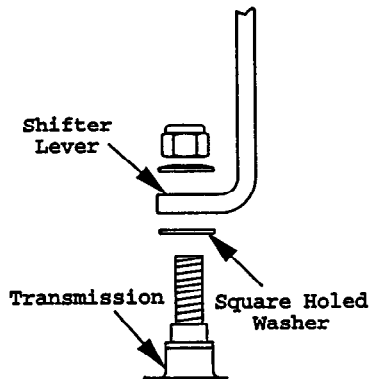

FIG. 6
- a) Remove the 3/8" nyloc nut and spring disc washer from the stud on top of the transmission. Install the shifter lever through slot in shifter lever plate and onto the stud on top of transmission. Be sure the square-hole washer remains between the lever and transmission. Replace the spring disc washer and nyloc nut (see figure 6). Torque the 3/8" nut to 35ft. lbs. (47N.M).